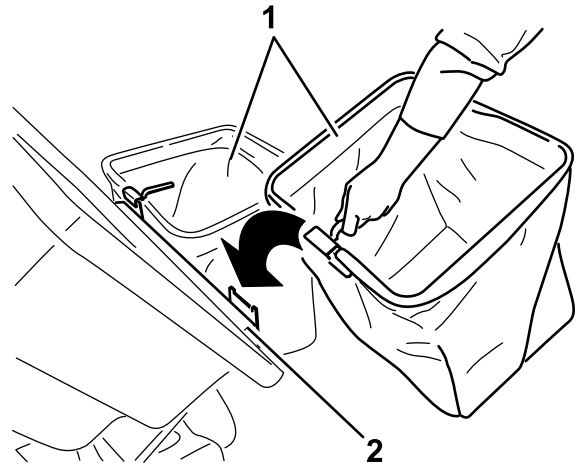

Figure 12
2. Lift the bagger top and install the bags by sliding the bag frame hooks onto the retaining brackets (Figure 12).